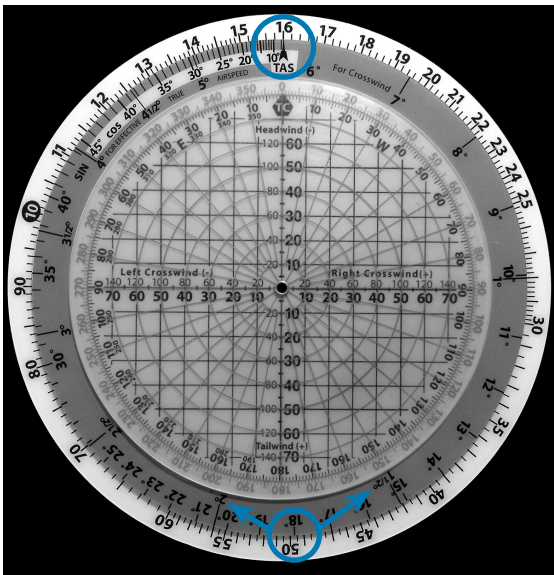

Figure 29.
3. Find the number of additional correction needed to reach your destination; place the miles to destination (160 depicted by 16 on the computer) opposite the TAS index (see Figure 29).